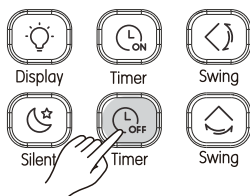

Figure 3.18
- ① Press  (see Figure 3.18), and the remote controller will display "Timer Off", and "0.0H" will appear in timer area. Adjust the Timer Off settings now;